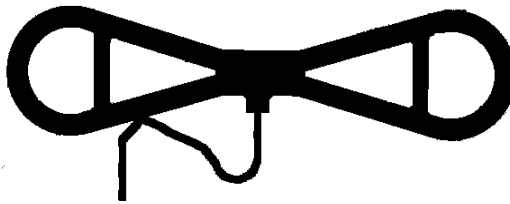

Figure 1, Antenna Tie Wrap Modification
28. Referring to Figure 1, measure back 4” from the connector that attaches to the Figure 8 Loop. Place that point on the cable next to the Figure 8 Loop and place a Cable Tie (5878-0016) on it. This will stop the cable from being pulled out of the Antenna Cable Connector.